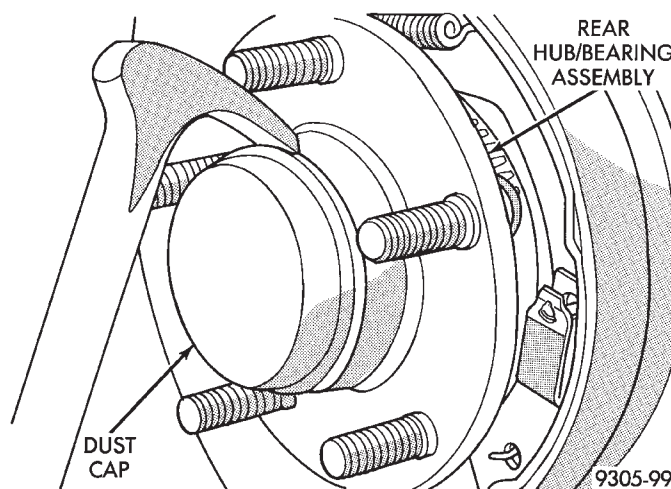

Fig. 65 Dust Cap Removal
- (1) Remove rear hub and bearing assembly dust cap (Fig. 65).